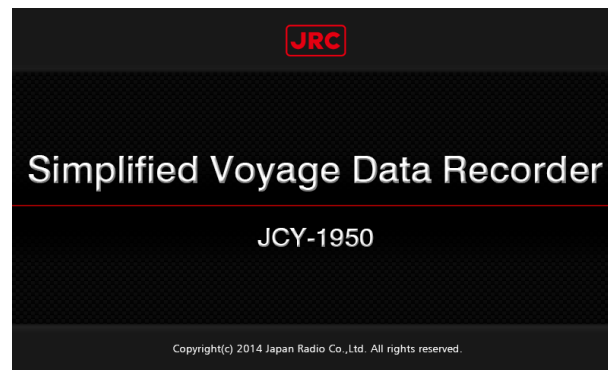

Figure 3-2 Startup screen
- 4) The OPU starts up and displays the startup screen to show in Figure 3-2.